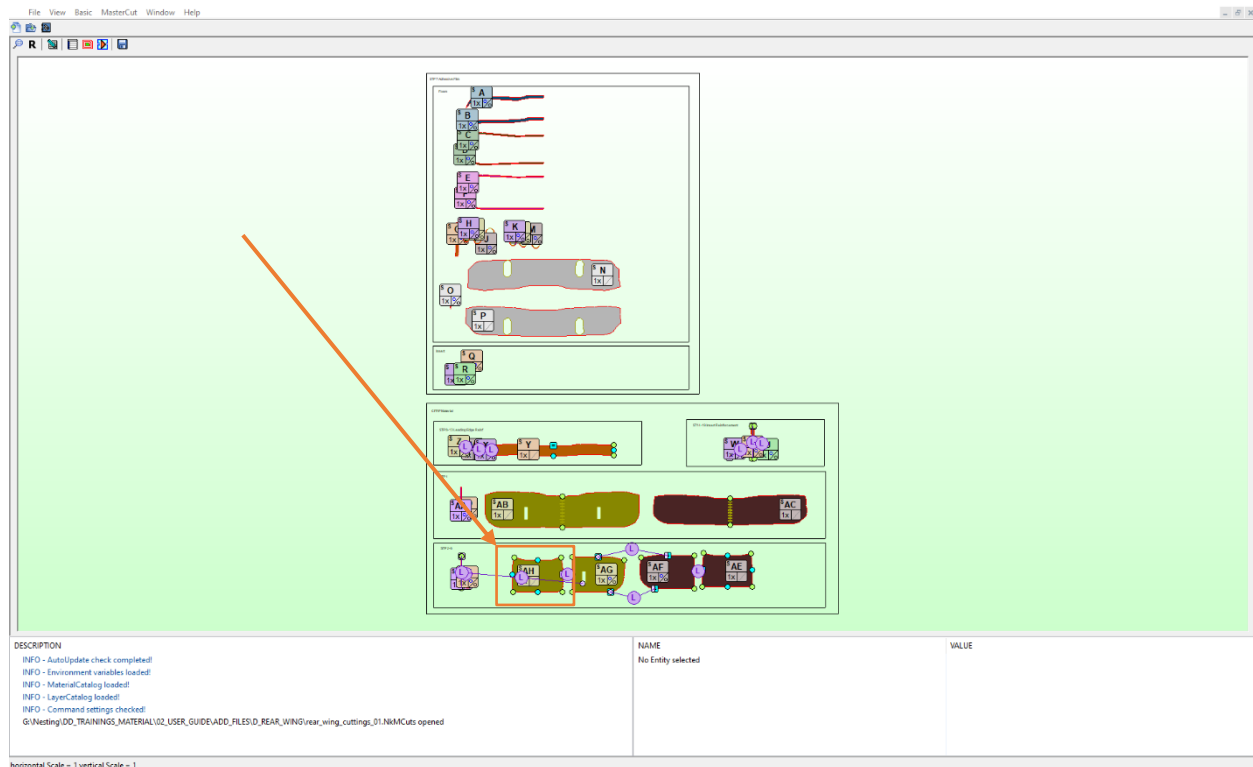

Figure 395
2. Assume that for whatever reason we want to change the outer shape of RawCut ST4 of MasterCut AH as indicated in Figure 395.